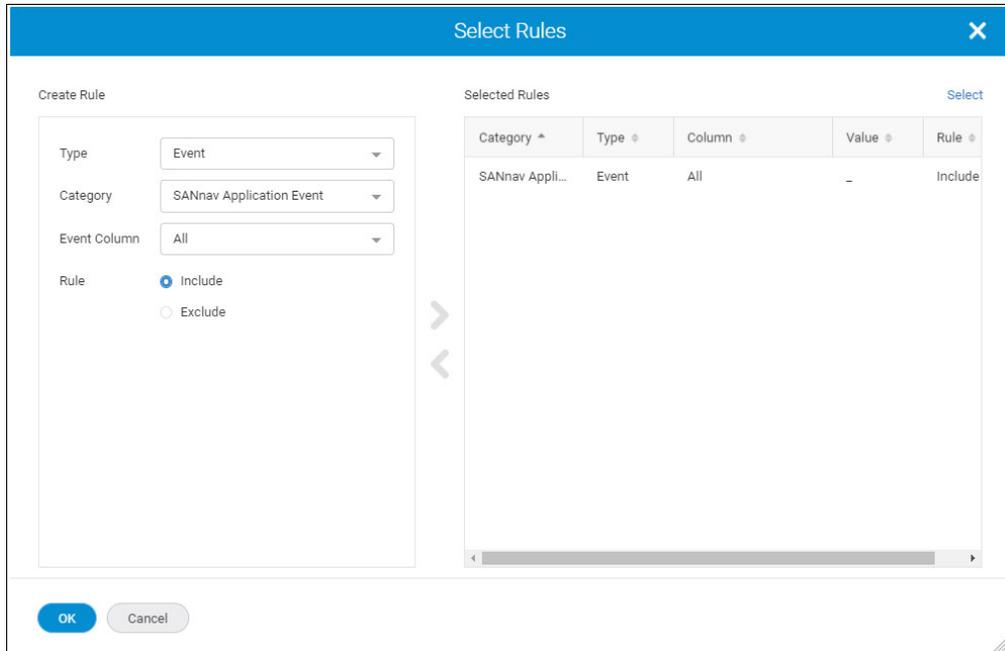

Figure 5-153 Include/Exclude rule
- To add event rules, select the rule type, rule category, associated event column, and the respective value of the event column to add event rules. You also can include or exclude these rules by using the **Include** or **Exclude** options (Figure 5-153). When you create multiple rules with similar event or violation columns, events or violations that match any of these rules are forwarded through email. When you create multiple rules with different columns, events or violations, all rules are forwarded through email.